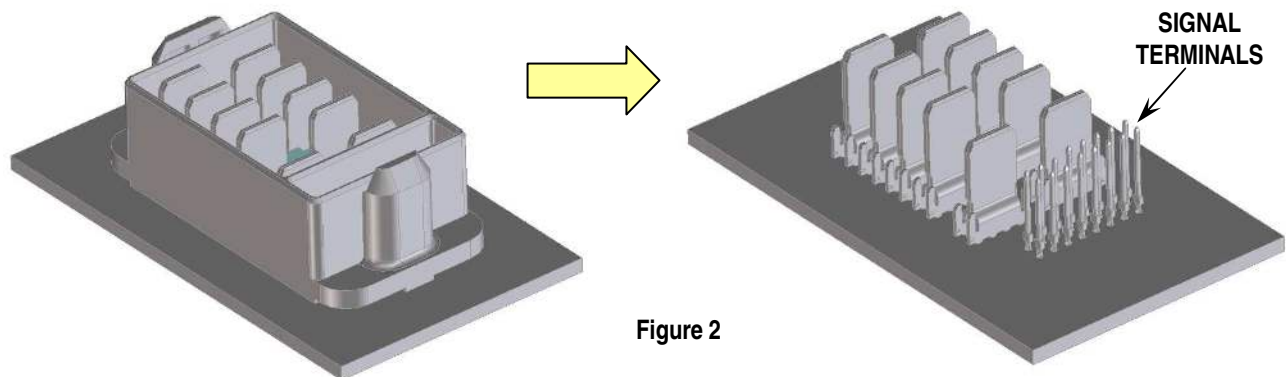

Figure 2
1. Remove the plug housing using Molex tool 62100-6400. The terminals will be exposed as shown in Figure 2.